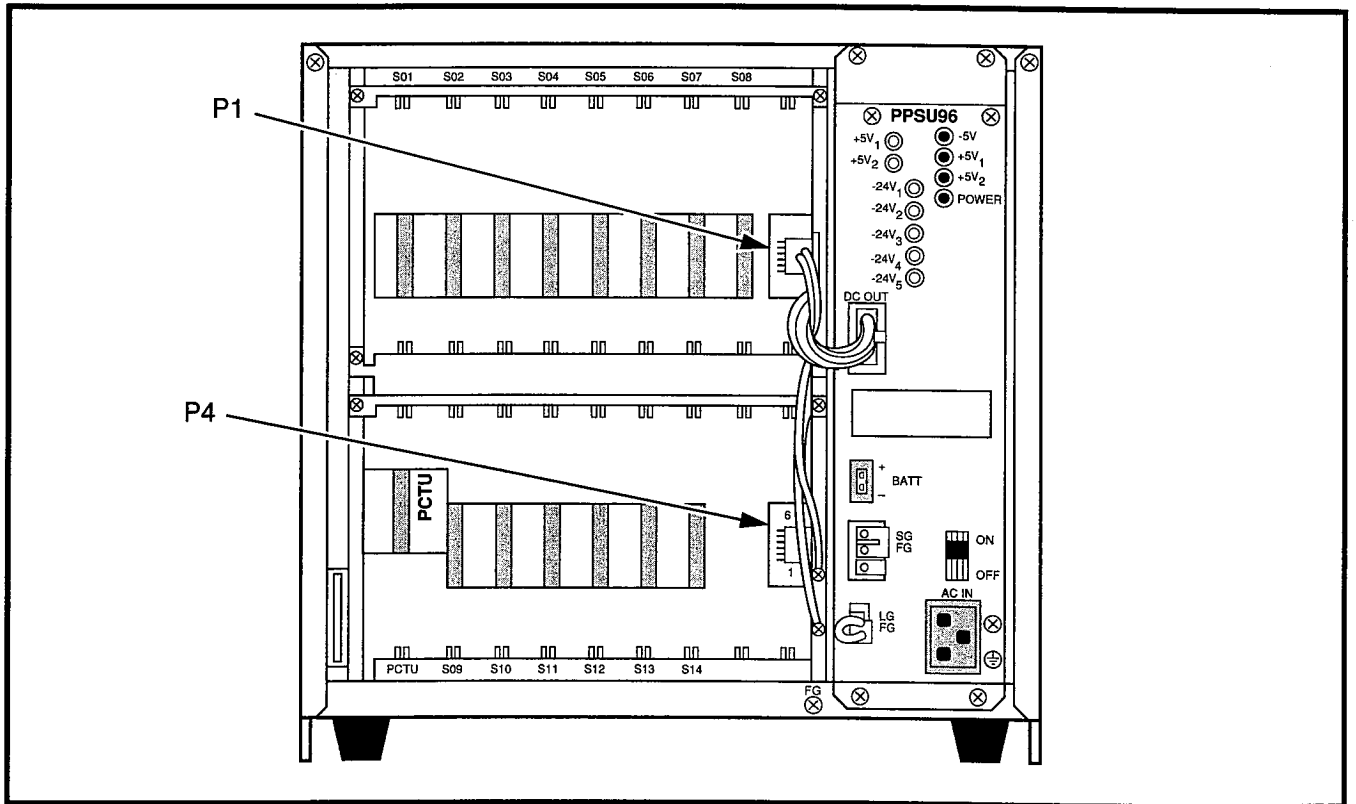

FIGURE 17—DK96 CABINET INTERIOR
- The DK96 cabinet interior (Figure 17) has